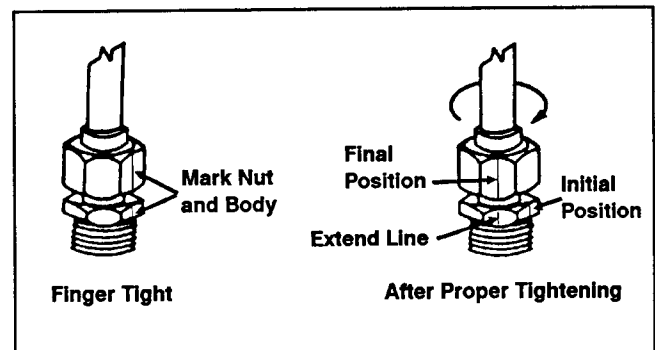

Figure 2
5. Mark the nut and fitting body (Fig. 2). Hold the body with a wrench. Use another wrench to tighten the nut to the correct flats from finger tight (F.F.F.T.). The markings on the nut and fitting body will verify that the connection has been tightened.